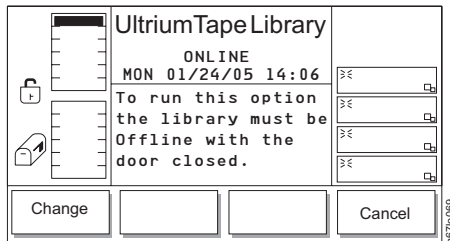

Figure 4-187. Library Submenu
2. Press the button below the **Library** softkey. The Library Submenu displays (see Figure 4-187).